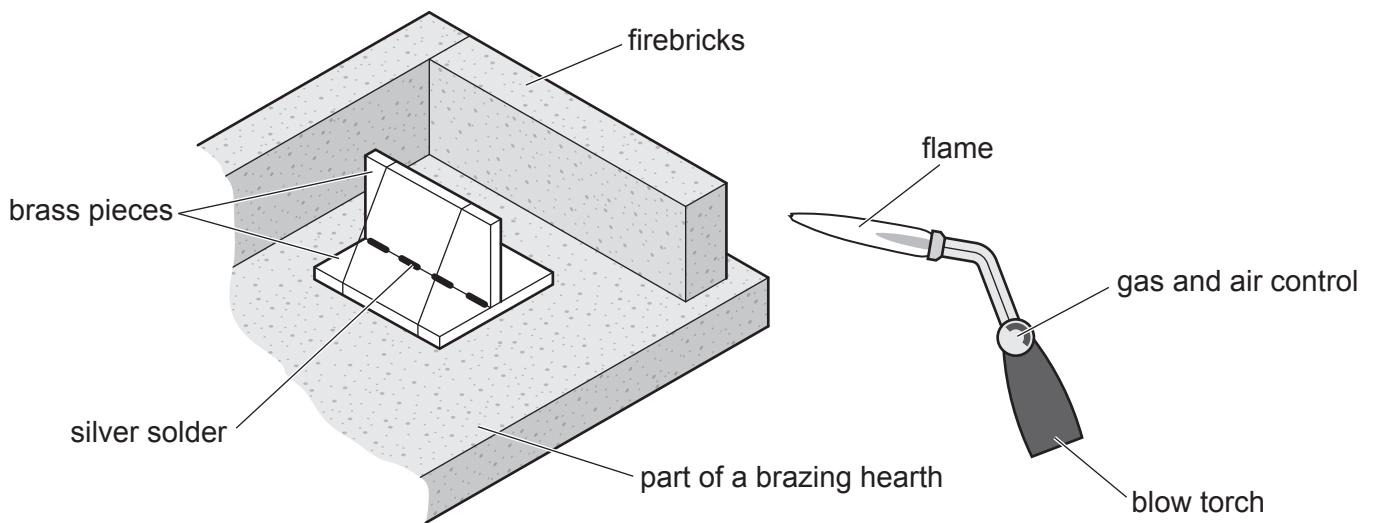

Fig. 8.1
- 8 Fig. 8.1 shows two pieces of brass that will be soldered on a brazing hearth using a blow torch.
- (b) Indicate clearly on Fig. 8.1 the hottest part of the blow torch flame.